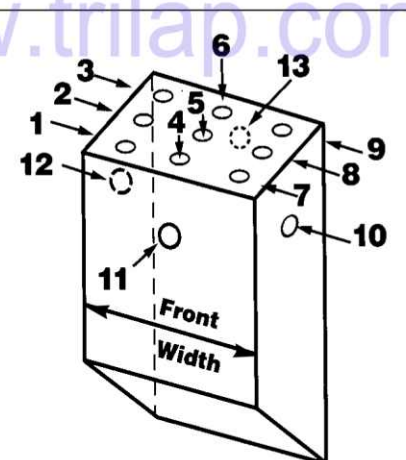

Figure 13. Typical Commutator Brush
**Shunt locations** by position number are illustrated in Figures 13 and 14. When specifying locations, it is important to orient the brush correctly as follows:
- Brushes with top and/or bottom bevels: see Figure 13.